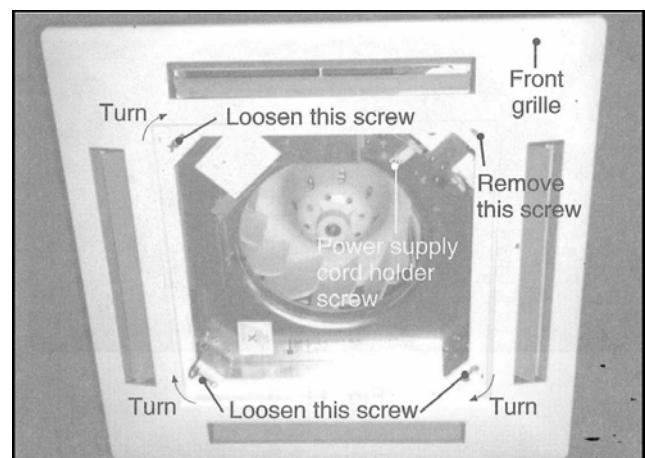

Fig. 7
(Refer Fig. 7).
5. Remove the power supply cord holder screw (Fig. 7).